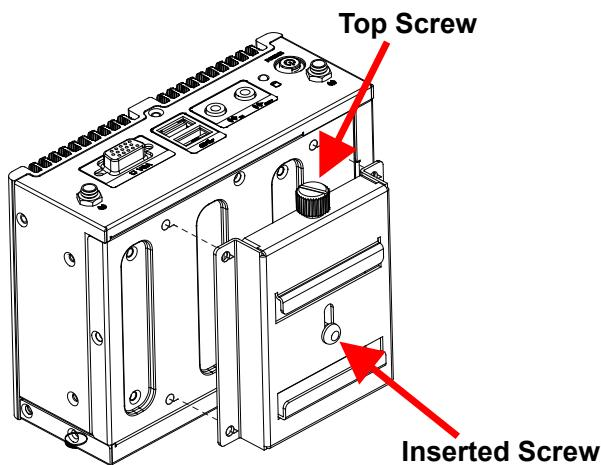

Figure 3-17: Screw Locations
- Step 2:** Make sure the inserted screw in the center of the bracket is at the lowest position of the elongated hole (**Figure 3-17**).